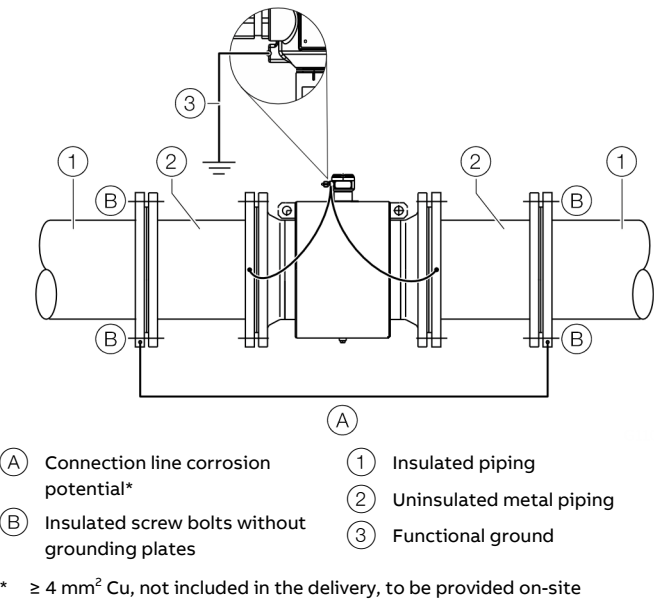

Figure 43: Sensor with functional ground
- If the occurrence of external stray currents is to be expected in piping with internal insulation (e.g. in the case of long pipe sections in the vicinity of power supply units), an uninsulated pipe of approx. $\frac{1}{4} \times \text{DN}$ of length should be provided upstream and downstream of the sensor in order to deviate these external stray currents away from the sensor (Figure 43).
Figure 43 shows the preferred installation for cathodic corrosion protection.